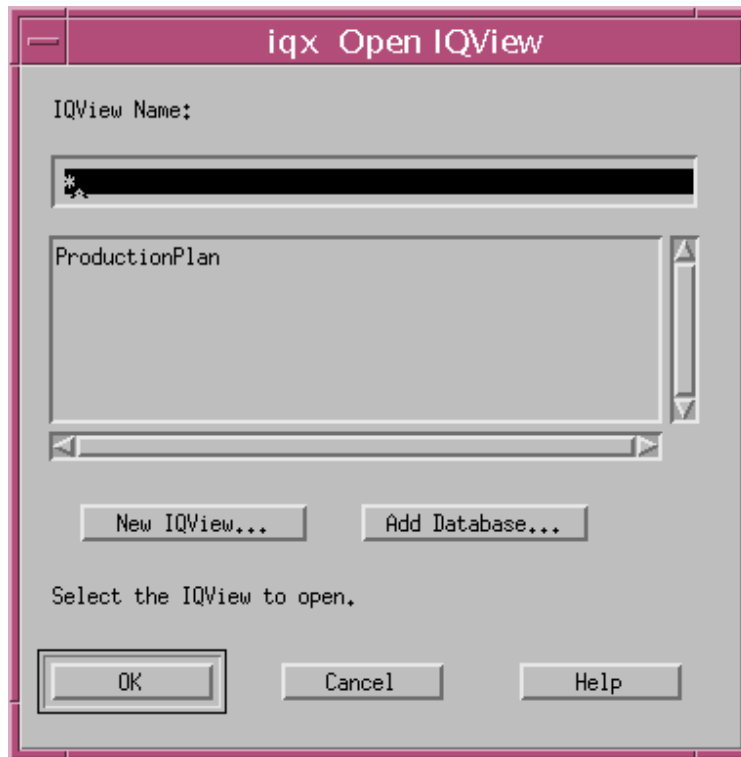

Figure 26.22.1-3. iqx Open IQView GUI
- If the **iqx License** dialogue box (Figure 26.22.1-4) is displayed, click on the **Cancel** button.